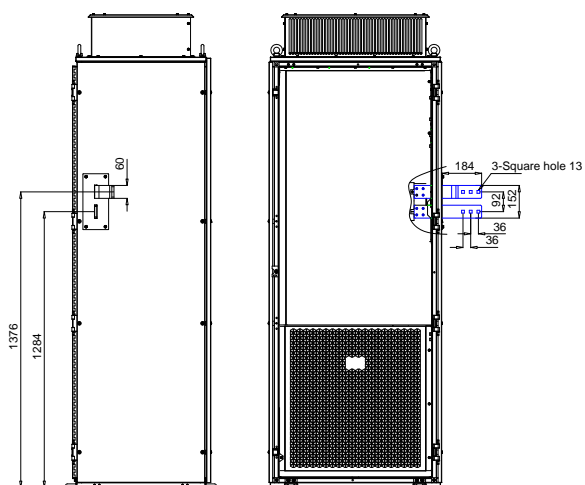

Figure 4-19 Mounting dimensions of adapter busbar (unit: mm)
- Step 1 Open the cabinet door and install the external braking unit adapter busbar as shown in Figure 4-19